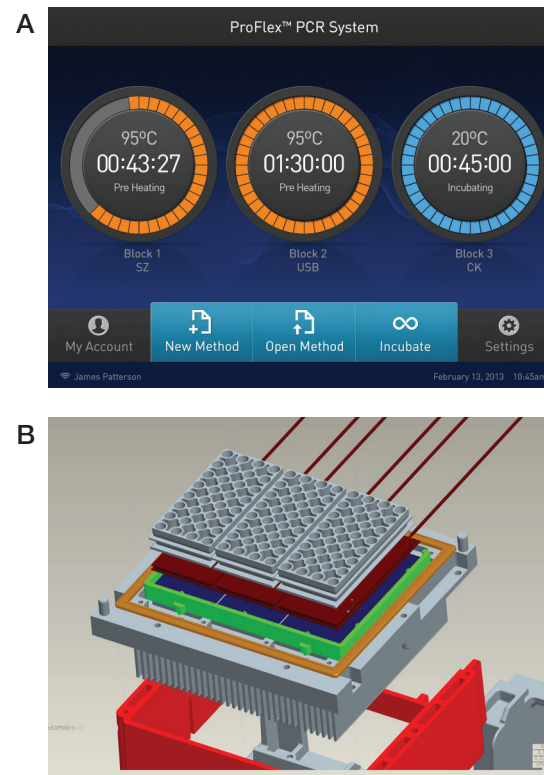

Figure 2. Applied Biosystems™ thermal cyclers. (A) Color touch-screens for easy programming. **(B)** VeriFlex technology for simple and accurate optimization.
Our Applied Biosystems™ ProFlex™, Veriti™, and SimpliAmp™ thermal cyclers have updated color touch-screens for easy programming and monitoring of your run status at the bench (Figure 2). Simulation modes allow easy transition from previous thermal cyclers by simulating the ramp speed of your old instrument.
- Better-than-gradient VeriFlex™ Blocks temperature control (Figure 2) allows for a true linear temperature slope across metal blocks, with the ability to set up to six different temperatures. The user can set each zone to a unique temperature for precise control.